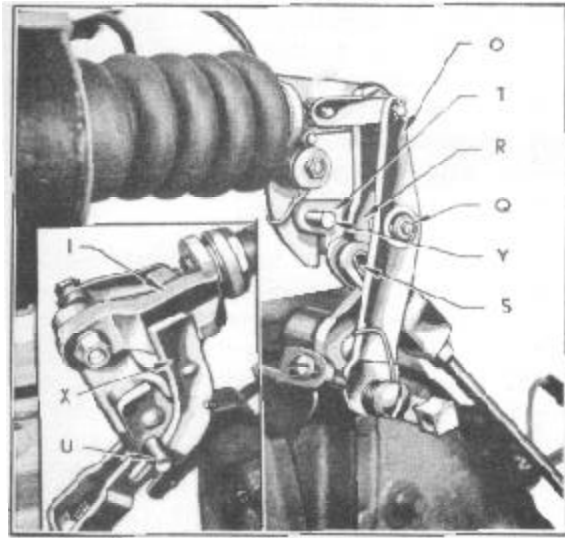

FIGURE 10
When first starting the car, the clutch pedal is depressed manually (by the driver's foot) and the action that takes place is--the end of the bell crank yoke (S) strikes the pin (Y) and swings the lever (T) both forward and upward, see Figure 10.
which is mounted on the piston rod end (I) will engage the pin (U) and the compensator lever will be rotated back to a position for normal driving. See Figure 10.
The compensator lever must be in an upward position as shown in Figure 10 before making any automatic clutch adjustment.